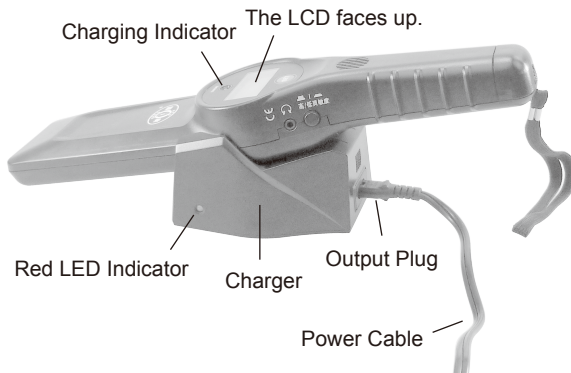

Figure 4
3. Place the supplied charger on a platform. Inset the output plug of the power cable into the power input socket on the charger (see Figure 4), then insert the input plug of the power cable into a
4. Insert the detector into the slot on the charger, as indicated in Figure 4, until the detector is in place, make sure that LCD of the detector faces up.